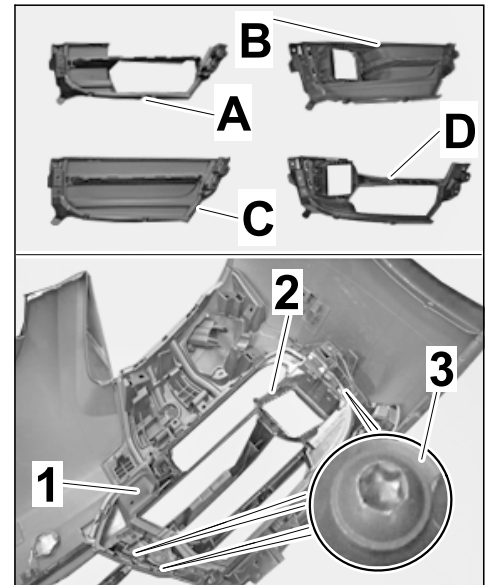

Figure 20
Different inner air grilles \Rightarrow *Figure 20* (A - D) are used, depending on vehicle equipment.
- 4.6 Clip inner air grille \Rightarrow *Figure 20* at the right (insert piece for right trim), e.g. type D \Rightarrow *Figure 20-1* into the right frame \Rightarrow *Figure 20-2*.